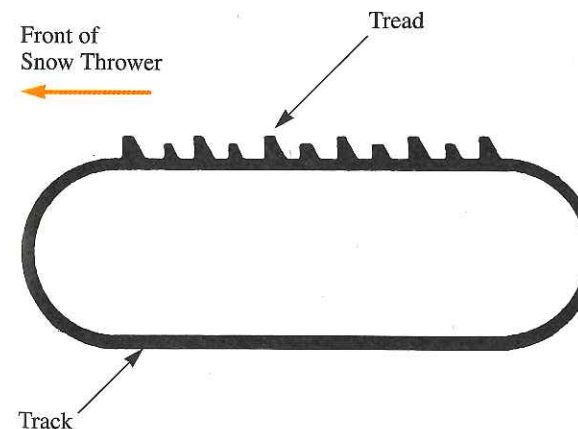

**Figure 20-28.** Direction of track tread must be as shown when installing the track on the idler and drive wheels. (MTD Products, Inc.)
5. Reassemble in reverse order with a new chain and/or track. When reassembling track, be certain the tread of the track is running in the proper direction. See **Figure 20-28**.